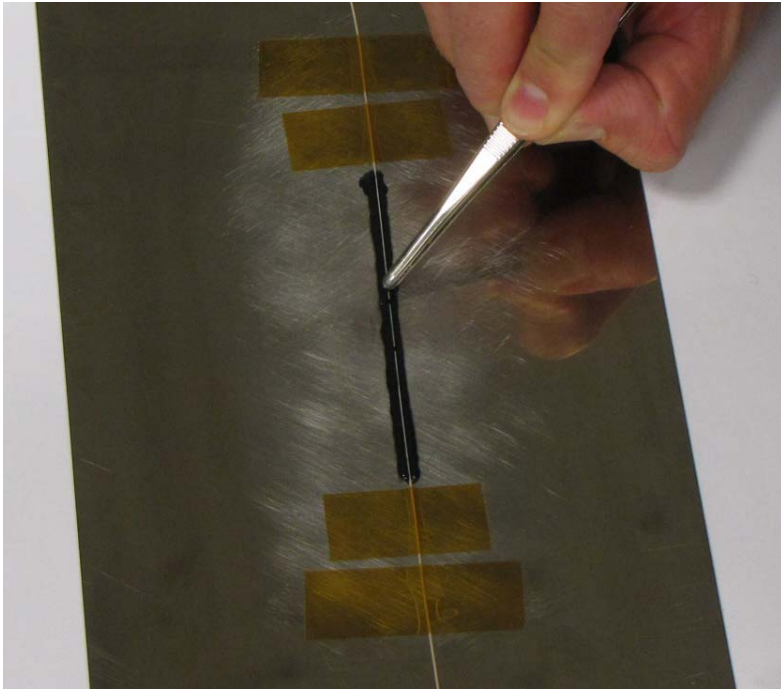

Fig. 2.6: Pressing down the optical sensor fiber OptiMet-PKF with rounded tweezers
2. In addition, press the optical sensor fiber OptiMet-PKF with rounded tweezers gently onto the component surface (Fig. 2.6).